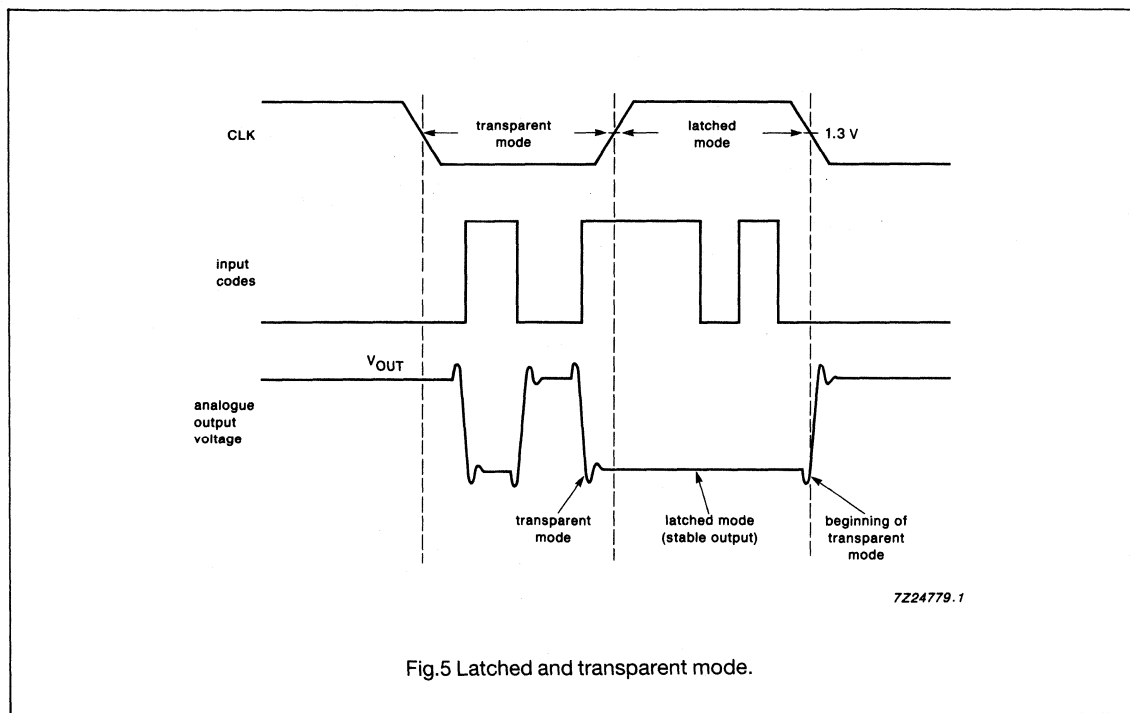

Fig.5 Latched and transparent mode.
- The worst case characteristics are obtained at the transition from input code 0 to 255 and if an external load impedance greater than 75 Ω is connected between V_{OUT} or $\overline{V_{OUT}}$ and V_{CCA} . The specified values have been measured with an active probe between V_{OUT} and AGND. No further load impedance between V_{OUT} and AGND has been applied. All input data are latched at the rising-edge of the clock. The output voltage remains stable (independent of input data variations) during the high level of the clock (CLK = HIGH). During LOW-to-HIGH transition of the clock (CLK = LOW), the DAC operates in the transparent mode (input data will be directly transferred to their corresponding analog output voltages, see Fig.5).
Note to Fig.5